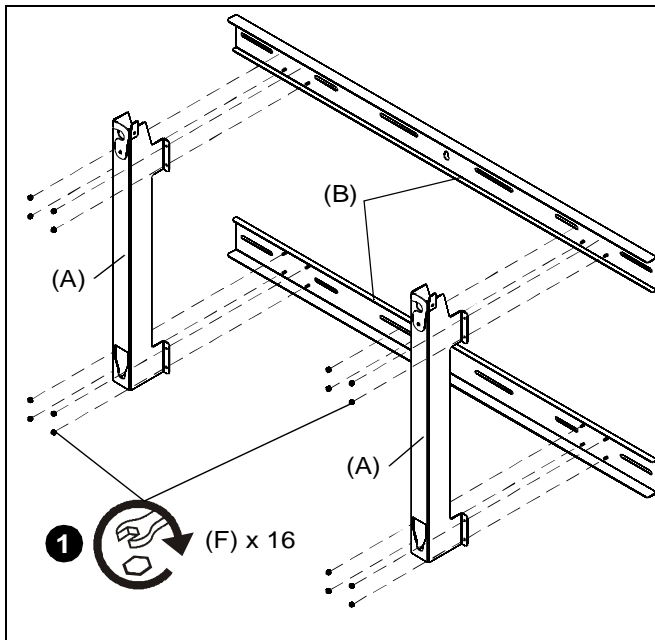

Figure 1
1. Attach two vertical brackets (A) to two horizontal brackets (B) using sixteen 5/16-18 nylon lock nuts (F). (See Figure 1)